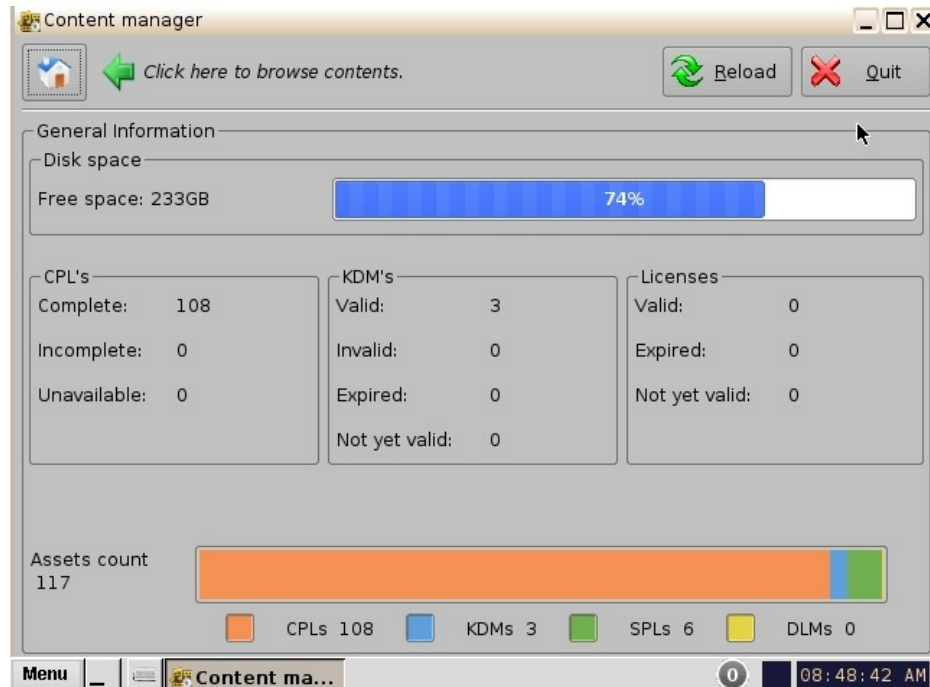

Figure 54: Content Manager Main Tab
- The following window will appear (Figure 54):